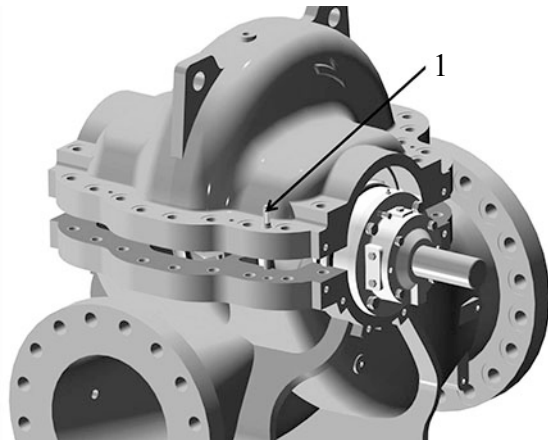

Figure 55: Upper casing alignment and installation via tapered pins
31. Locate the upper half of the casing into place using the tapered dowel pins and install the casing main joint bolts (see Figure 55). The casing joints should be tightened according to the torques listed in section 6.10 Screw Torque Values.